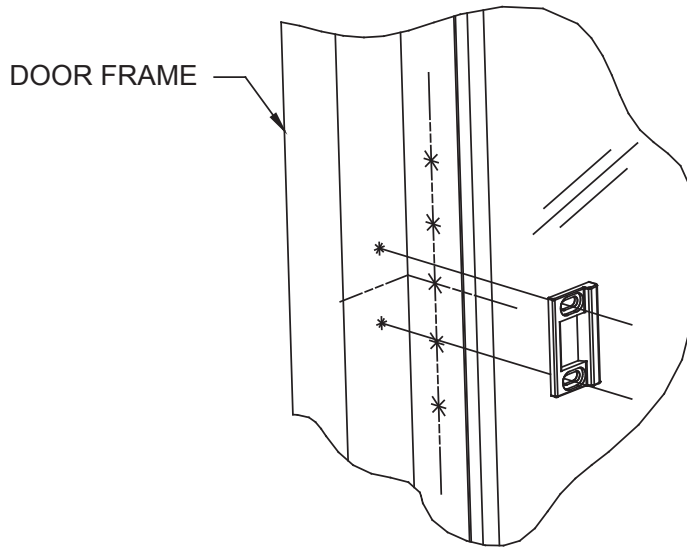

Fig. 4
6. Slide the strike against the blocked door. (See Fig. 4)